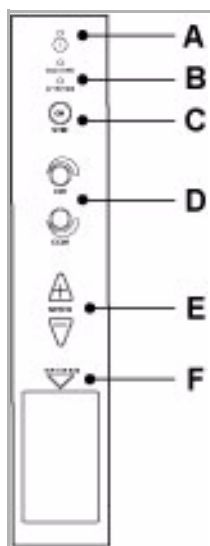

Figure 1.3 Control Panel
Control Panel functions are labeled in Figure 1.3 (below).
The blue **ON** light is located at the top of the Control Panel (Figure 1.3, A)
There are two status lights (Figure 1.3, B): Analyzing and Attention, below the **ON** light.
The **Stir ON** button is located below the Analyzing and Attention lights on the Control Panel (Figure 1.3, C). The toggle button turns the stirrer on or off. It is lit when the stirrer is **ON**. The Stirrer operates only when the platform is in the raised position for sample analysis. It will not spin when the platform is in the loading position.
You can select or change stirrer direction before or during an analysis run using the clockwise (CW) or counter-clockwise (CCW) button (Figure 1.3, D).
You can increase or decrease the stirrer speed using the Control Panel Speed buttons, + and - (Figure 1.3, E).
You can use the Bar Code Reader (Figure 1.3, F) to scan information about the following directly into the Multisizer 4 software: